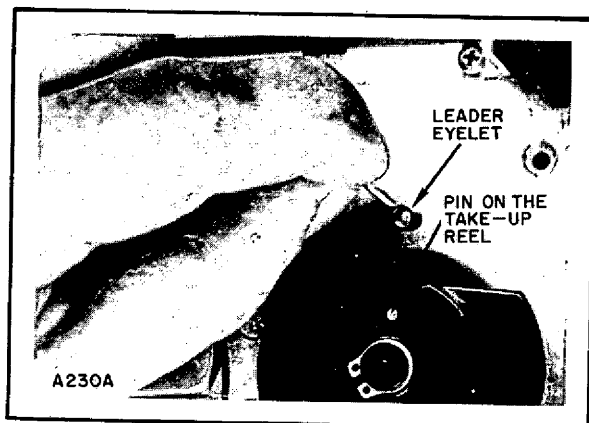

Fig. 4-3. Removing the Leader Eyelet
- b. Lift the leader eyelet upward off the pin on the take-up reel, as indicated in figure 4-3. The leader clip will remain in the clip channel because the locking lever is in the unlock position.
- d. Remove the leader eyelet from the pin on the take-up reel. (See figure 4-3.)